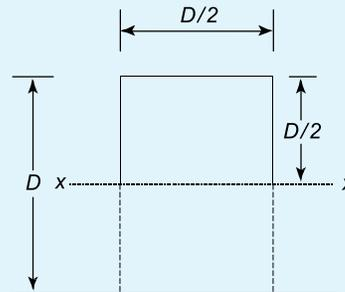

Figure 9.10
4. If the cross-section of the beam of Problem 3 were of rectangular shape, as shown in Figure 9.10, determine its dimensions. Bending can be assumed to take place about the  $xx$  axis.